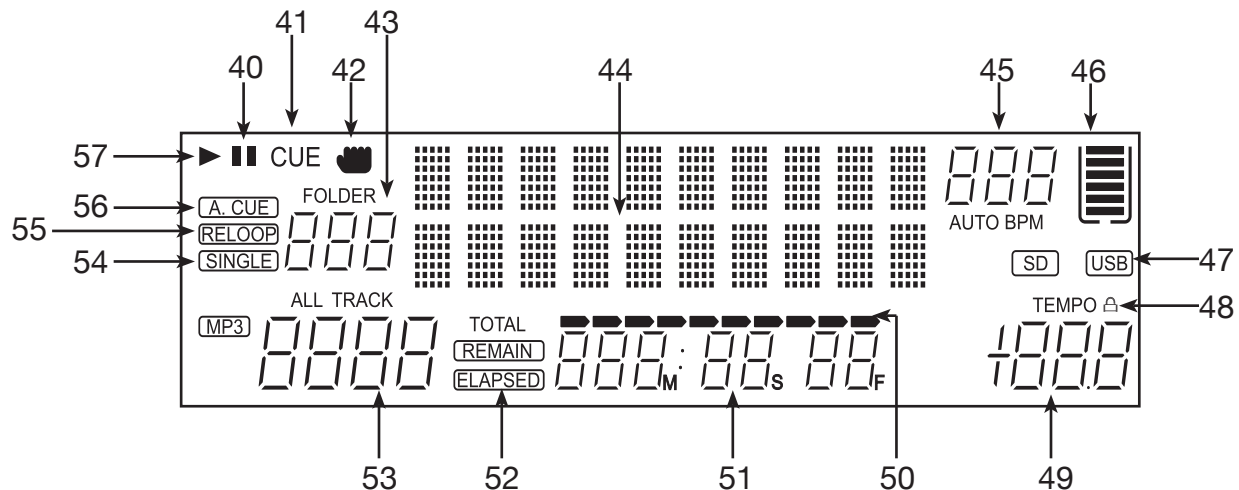

Figure 4
C. VFD DISPLAY PANEL (FIGURE 4)